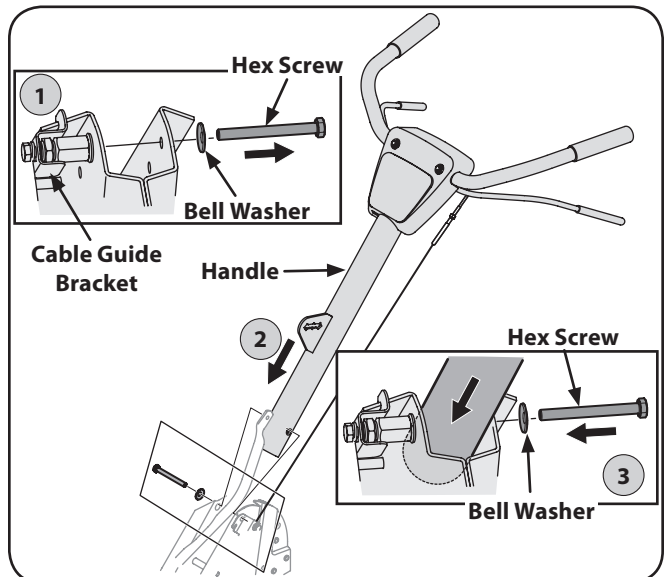

Figure 1-3
3. Remove the hex screw and bell washer from the right side of the frame. Hold the cable guide bracket on the left side of frame as it will fall when the bolt is removed. Step 1 in Figure 1-3.
4. Insert the handle into tiller frame as shown. Step 2 in Figure 1-3.
5. Insert the bolt through the cupped washer, frame, handle and into the cable guide bracket (note the notch in the cable guide bracket goes over the flange on the frame.) Step 3 in Figure 1-3.